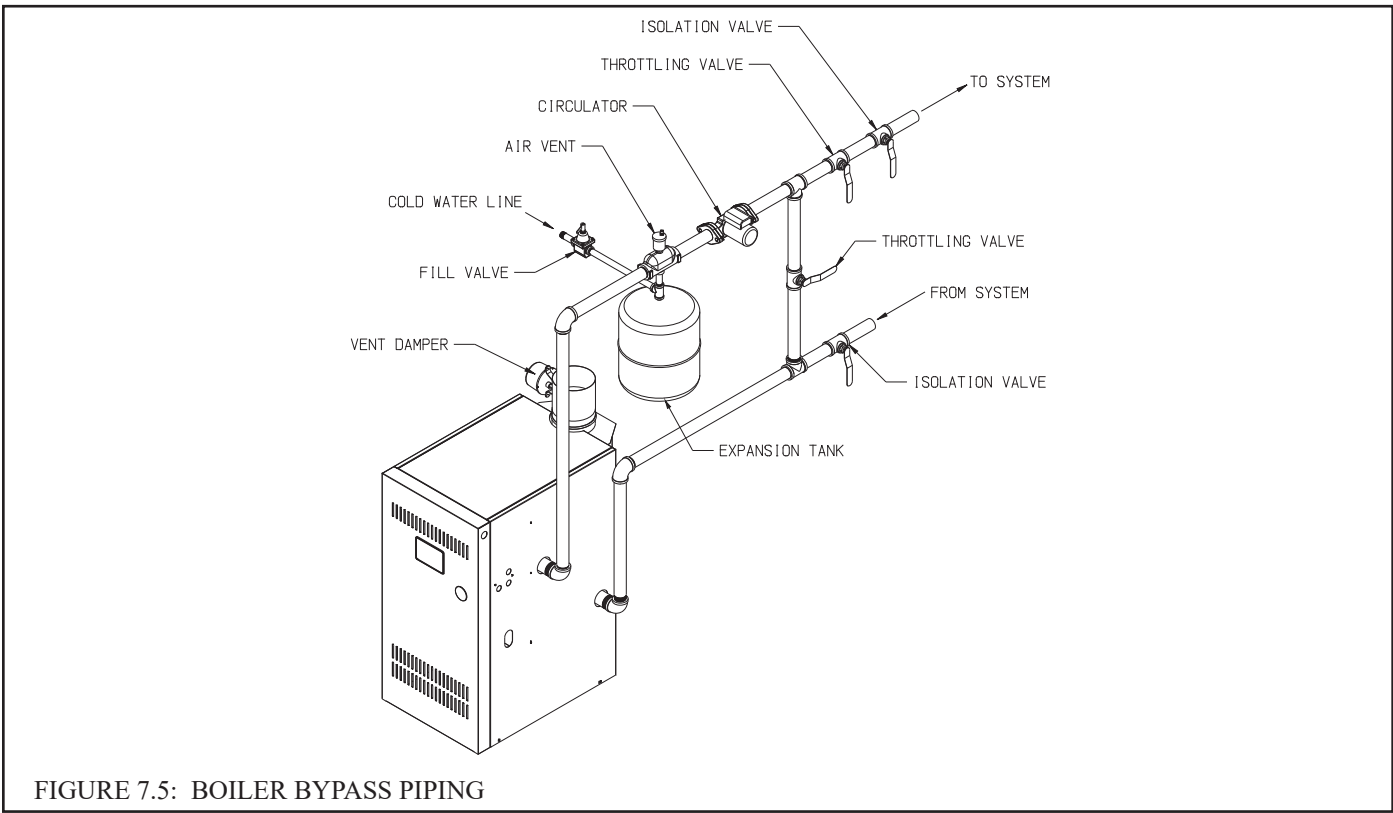

FIGURE 7.5: BOILER BYPASS PIPING
- 3) Large Water Volume Systems - The piping shown in Figure 7.5 will minimize the amount of time that the boiler operates with return temperatures below 120°F on these systems. A bypass is installed as shown to divert some supply water directly into the return water. The bypass pipe should be the same size as the supply. The two throttling valves shown are adjusted so that the return temperature rises above 120°F during the first few minutes of operation. A three-way valve can be substituted for the two throttling valves shown. If the circulator is mounted on the supply, the bypass must be on the discharge side of the circulator.